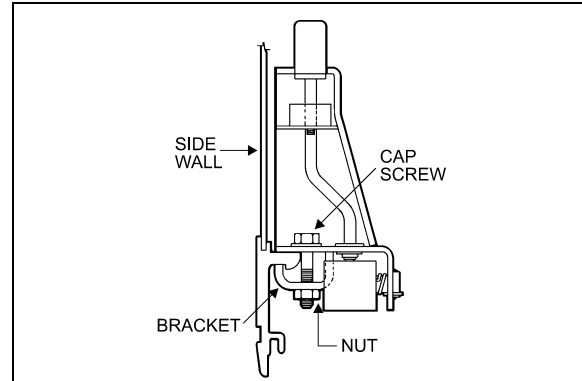

FIGURE 46: ARMREST
4. Remove 2 cap screws, nuts, and washers holding seat frame to side wall and retain the 2 holding brackets. See figure 46.